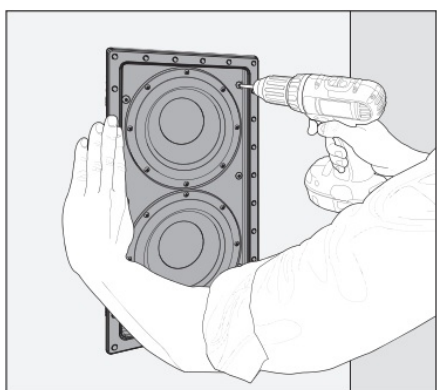

Fig. 4c
4. Supporting the assembly with one hand, tighten each screw (Fig. 4c). Stop tightening when you sense resistance.